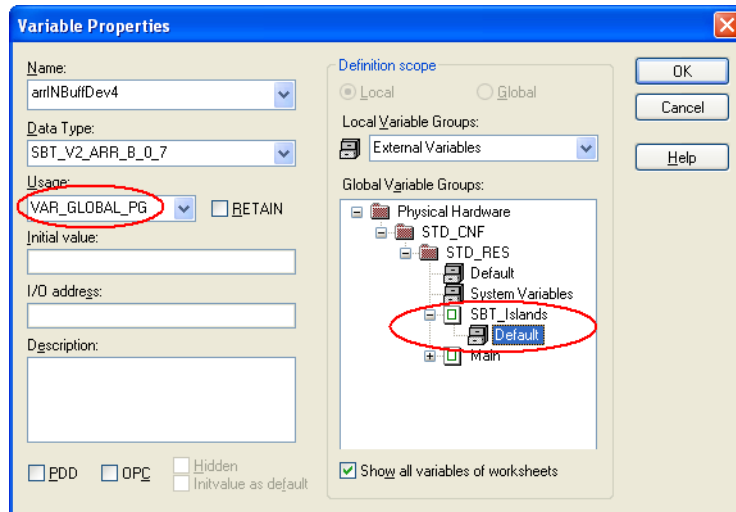

Figure 3-30 Properties of the arr..Buff.. variable
- The inputs and outputs with "arrINBuff..." and "arrOUTBuff..." are process data. VarExternalPG is selected as the use. Select the variable properties in accordance with Figure 3-30.